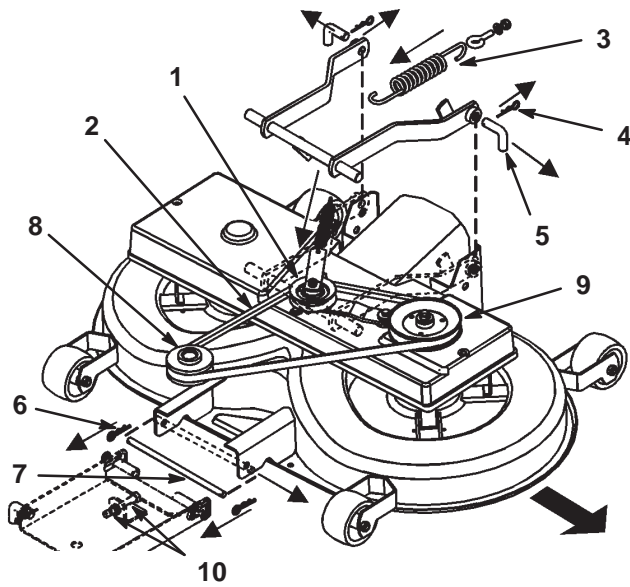

Figure 42
3. Pull the idler arm assembly in and remove the V-belt from the pulley (Fig. 42).
4. Disconnect the spring from the engagement lever (Fig. 42).
6. Remove the hairpin clips from the two rear pins and remove the pins (Fig. 42). A pliers may be needed to pull the second pin out.
7. Remove the hairpin clip from the front pin and remove the pin (Fig. 42).
8. Remove the V-belt from the engine pulley (Fig. 42).
2. Remove the V-belt pulley and idler arm assembly (Fig. 42).
2. Move the lower pin of the front adjustment suspension into the bottom position of the slotted holes by adjusting the 2 nuts (M12) on the front suspension (Fig. 42).